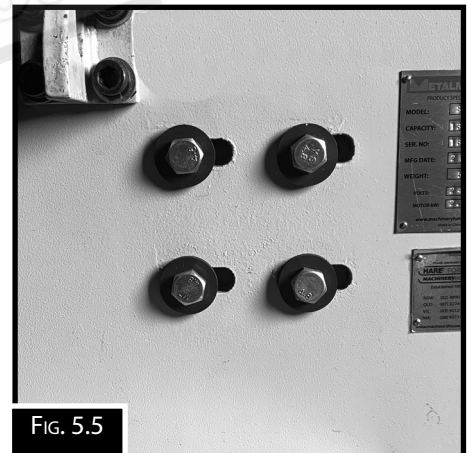

Fig. 5.5
1. Loosen the 4 bolts on both sides of machine, (Fig. 5.5)